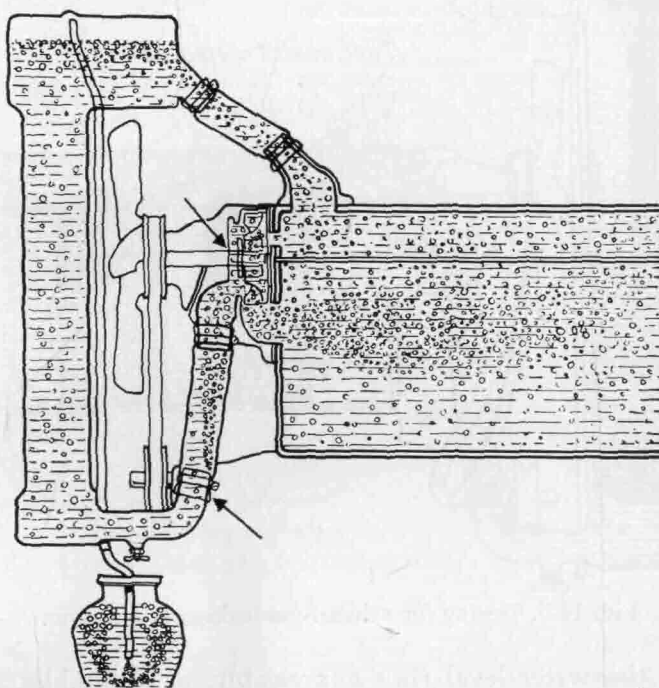

FIG. 14-4. Testing for air suction into cooling system. Arrows indicate points at which air might enter.
6. *Testing for air suction into system.* If leaks exist at any point between the radiator and the water pump, air will be drawn into the system as shown in Fig. 14-4. Air bubbles will cause foaming and loss of the cooling water. The water could, of course, be replaced, but if antifreeze is also lost, then replacement is an expense. There is also the danger of losing antifreeze protection in this way. Air in the system speeds up corrosion and rust. To check for air suction, fill the radiator, attach a hose from the overflow pipe, and [378]
put the lower end of the hose into a container of water, as shown (Fig. 14-4). Start the engine and run it until it is warmed up. If bubbles appear in the container of water, then air is being sucked into the cooling system. (It might be exhaust-gas leakage, as noted in the following paragraph.) Repair by tightening or replacing hose and hose clamps. If this does not cure the trouble, then either